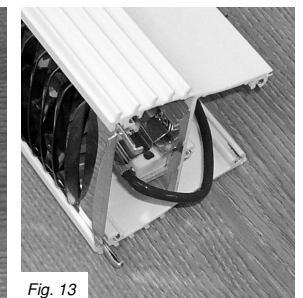

Fig. 13
13. Turn the heater over and starting with one end of the heater, place one of the lamp leads into the back of the heater and shape it so it is clear of the screw hole for the end casing (Fig. 13).